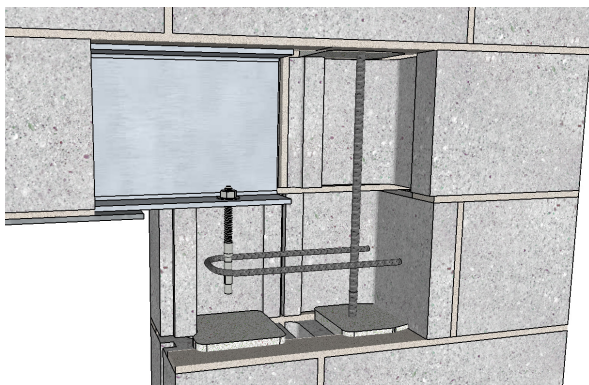

Figure 2: Steel lintel at bearing
- C) Steel lintels require additional and costly reinforcement. The required U-bar in Figure 2 is difficult and expensive to place, but is essential to prevent cracking. The vertical jamb reinforcement must be
shifted away from the opening, which requires the jamb to be designed for more tributary width, resulting in a larger jamb. This condition also requires additional grout under the steel bearing. See Figure 2 below. An alternative to this detail is to have the jamb reinforcement go through the steel lintel. This is an expensive option that is difficult to construct and creates more potential problems than it resolves.